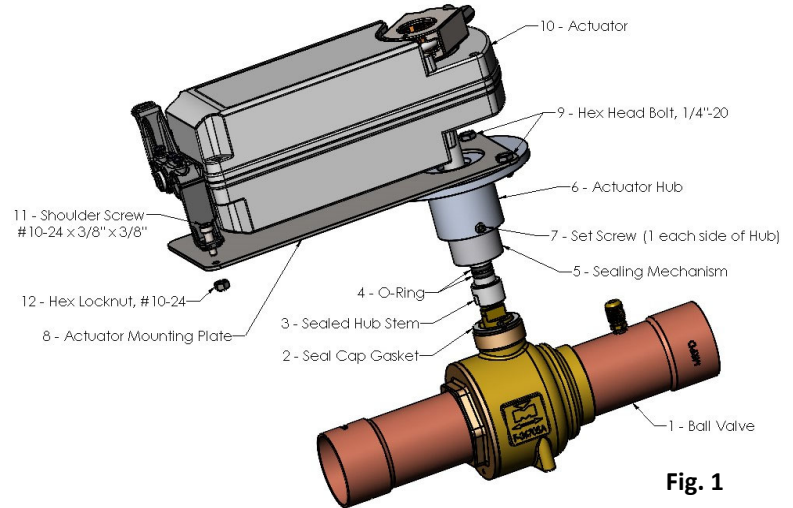
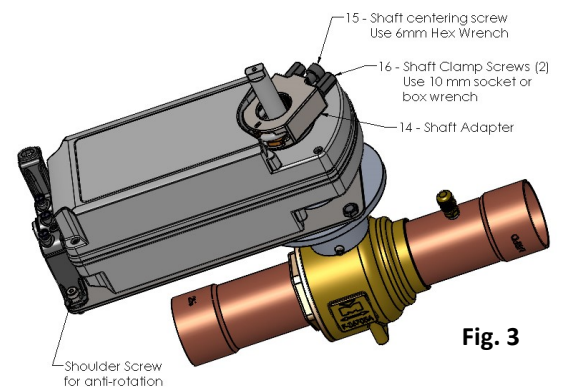

Fig. 1
Fig. 3
1. Disconnect Actuator (10) from all electrical sources.
2. Remove Actuator from Sealed Hub Stem (3) by:
- a) Loosen the three Shaft Adapter screws (Fig. 3).
- b) Loosen and remove the Shoulder Screw (11) and Locknut (12).
- c) Lift the Actuator (10) off the Stem and Hub Mounting Plate (8).
3. Remove Hub Assembly (2-7) from Ball Valve (1) by:
- a) Remove Hex Head Bolts (9) from Hub (6). Lift Actuator Mounting Plate (8) off Hub.
- b) Loosen the Set-Screws (7) on Hub (6).
- c) Remove Hub by placing wrench on flats of the Sealing Mechanism (5) and turn counter-clockwise.
1. Remove Sealing Mechanism (5) from Hub Assembly (2-7).
2. Ensure top of the Ball Valve neck(1) brass sealing surface is clean and free of debris.
3. Place Seal Cap Gasket (2) on sealing surface of Sealing Mechanism (5) where it will be located between the sealing mechanism and the top of the valve neck (see Fig. 1).
4. Apply a small amount of thread sealant to the threads of the sealing mechanism then thread the sealing mechanism into Hub (6) with the wrench flats toward the flange. Thread far enough into the hub so that the wrench flats of sealing mechanism are accessible above the hub flange.
5. Partially install the Set Screws (7) into the Hub.
6. Ensure O-Rings (4) and Stem (3) grooves are well lubricated with Dow #111 or equivalent.
7. Align slot in the Sealed Hub Stem (3) with valve stem (see Fig. 1). Slide Hub with Sealing Mechanism down over Stem, and thread hub onto valve neck as far as possible, stopping just before bottoming out.
8. Align Hub so that Actuator (10) will be in the desired orientation (see Fig. 1). With Allen wrench, tighten Set Screws (7). Torque 60-65 lb-in on either side of Hub until Hub is secured against the Ball Valve body to avoid rotation during operation.
9. While holding to proper orientation, continue to tighten Sealing Mechanism with wrench to snug, then approximately ¼ to ½ more turns, to ensure tight seal of the gasket against valve body. Pull Stem (3) upward while tightening the Sealing Mechanism, away from Ball Valve, to remove any slack in the assembly.
1. Attach the Actuator Mounting Plate (8) to Hub (6) using the two Hex Head Bolts (9). Tighten bolts 70-80 lb.-in. See Fig. 1 for orientation of plate.
3. After the Actuator (10) and Valve (1) are placed in proper positions, place the Actuator over the Stem (3), onto the Actuator Mounting Plate (8), with the bottom of actuator flush on the plate. Insert Shoulder Screw (11) through leg at rear of Actuator (10), through hole in plate, and attach with Hex Locknut (12), without tightening nut completely (see Fig. 1).
4. Pull Stem (3) upwards, away from Ball Valve (1) until no additional space is between the Hub Assembly's Stem and Sealing Mechanism.
5. While holding Actuator (10) flush against Actuator Mounting Plate (8), tighten Shaft Adapter Centering Screw (15)(Fig. 3). Tighten both Shaft Clamp Screws (16). Torque: 97-115 lb.-in. (11-13 N-m). Fully tighten Hex Locknut (12) See Commissioning Instructions.